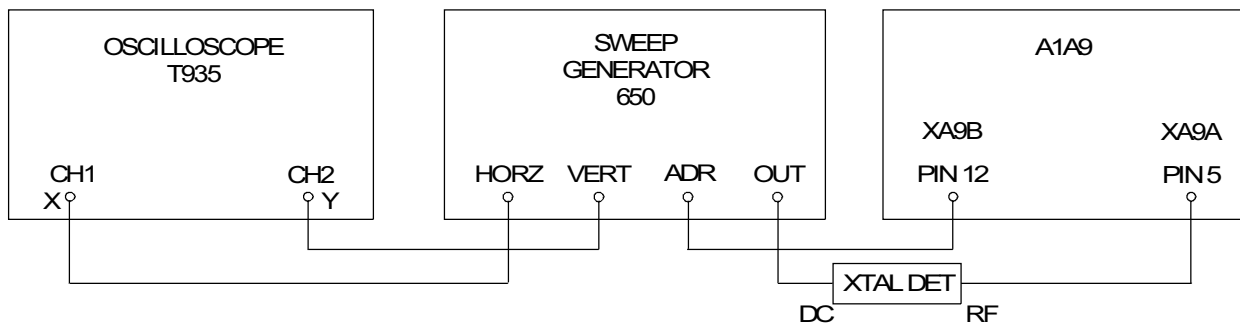

Figure 4-9. FM Discriminator Alignment, Equipment Connections
13. Connect the test equipment as illustrated in **Figure 4-9**. Set the sweep generator to produce a 100 kHz wide response, centered at 21.4 MHz, and at a -50 dBm output level.